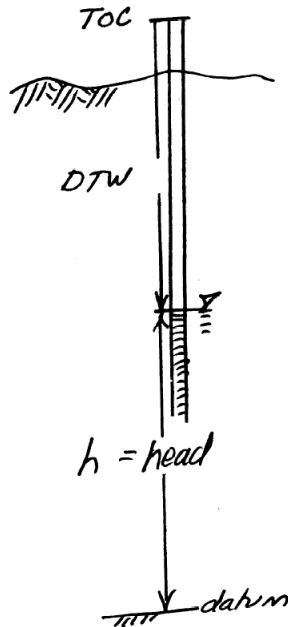

Figure 3: Sketch showing the relationship of top of casing (TOC) and depth to water (DTW)
Figure 3 is a sketch that shows the relationship between the top of casing elevation, depth to water, and head in the confined aquifer.
- (a) Using Figure 3 as a guide, write the formula to convert the depth-to-water (DTW) measurements and top-of-casing (TOC) values into head.
- (b) Using Figure 3 as a guide, compute the head in MW-A. Show your arithmetic.
- (c) Using Figure 3 as a guide, compute the head in MW-B. Show your arithmetic.
- (d) Using Figure 3 as a guide, compute the head in MW-C. Show your arithmetic.